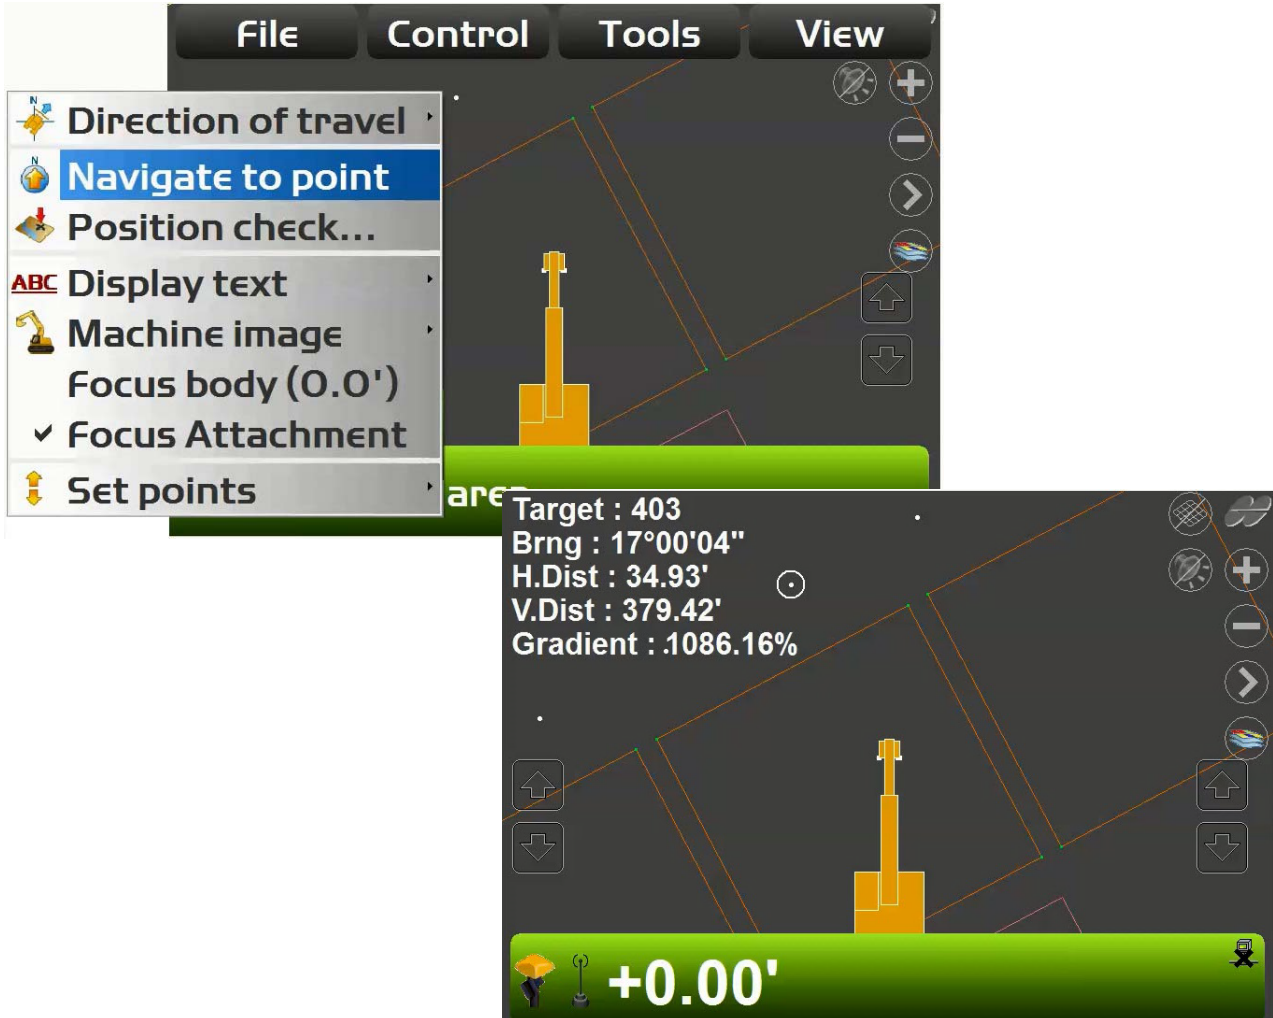

Figure 80: Navigate to Point
3. Select **Navigate to point**. The points navigation results display on the main screen (Figure 80).